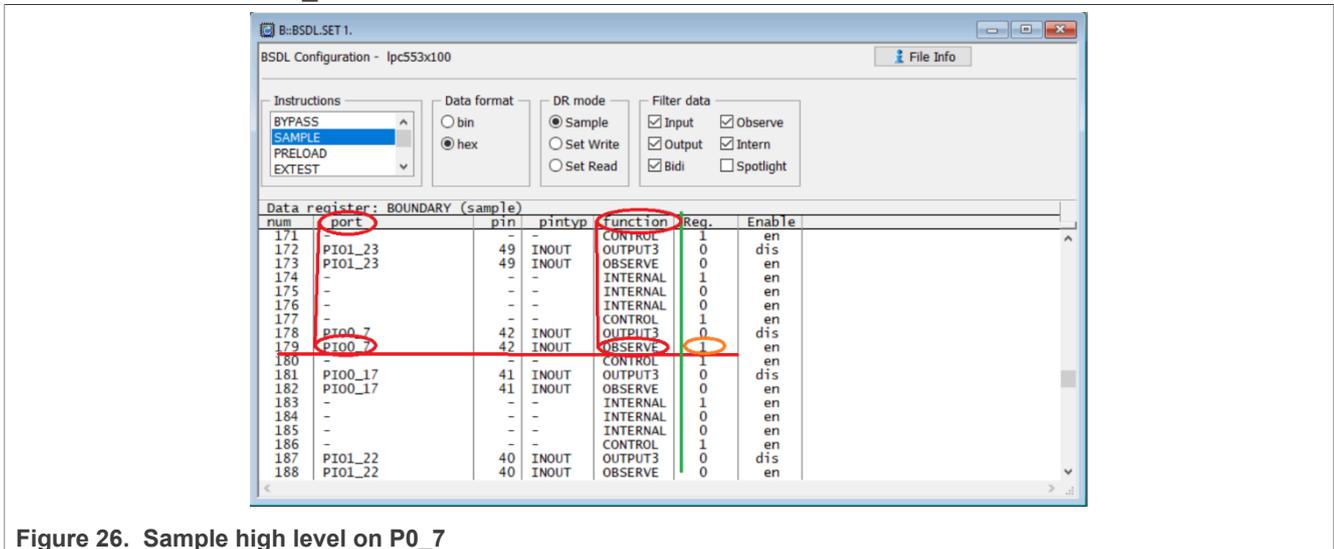

Figure 26. Sample high level on P0_7
- Apply high level to this pin. Use the `BSDL.RUN` command to run the **SAMPLE** test. Search the line where the port is `PIO0_7` and function is **OBSERVE**. Read the register value in the **Req.** column and it is **1**, as shown in Figure 26.